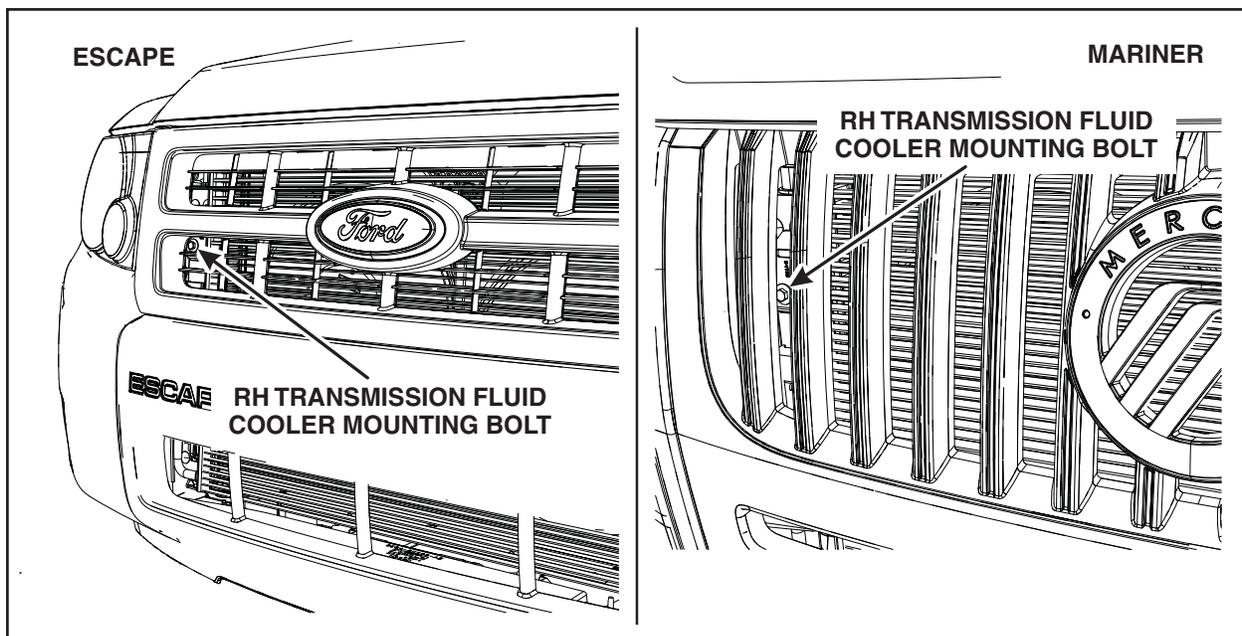
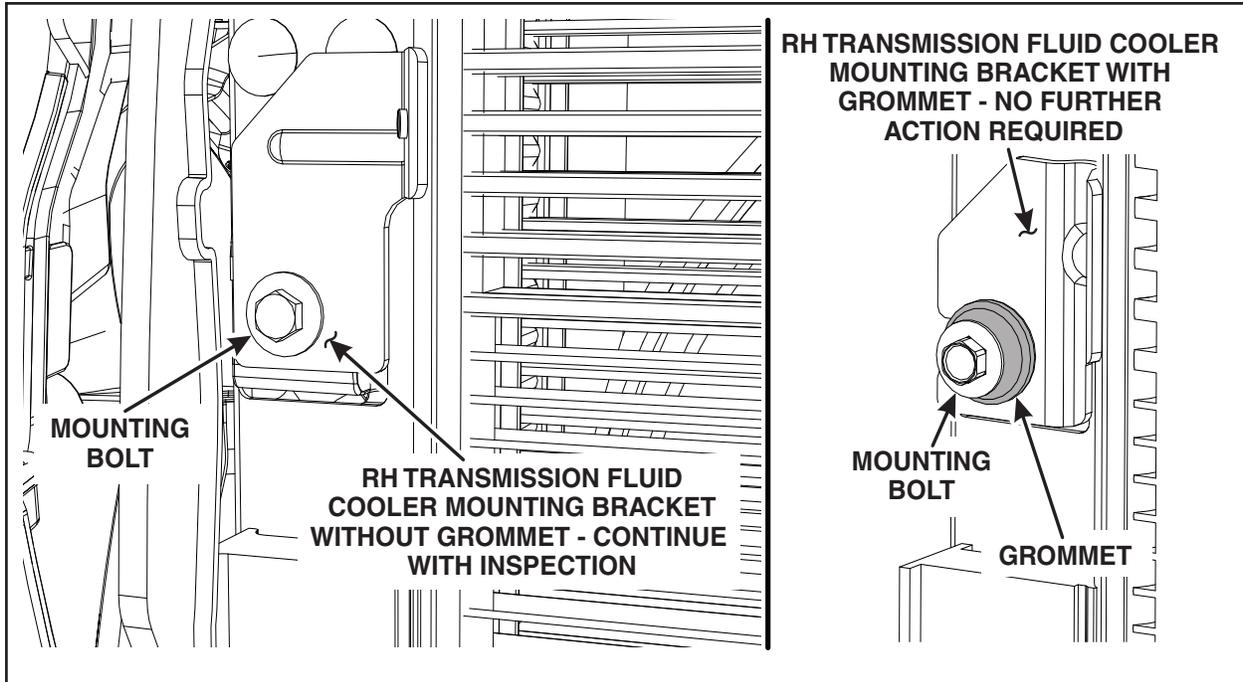

FIGURE 1
FIGURE 2
- Using a suitable light, look through the radiator grille and inspect the transmission fluid cooler mounting bracket for a grommet behind the mounting bolt. See Figure 1 and Figure 2.
2. If the grommet **IS** present, **NO** further action is required and this procedure is complete. See Figure 2.